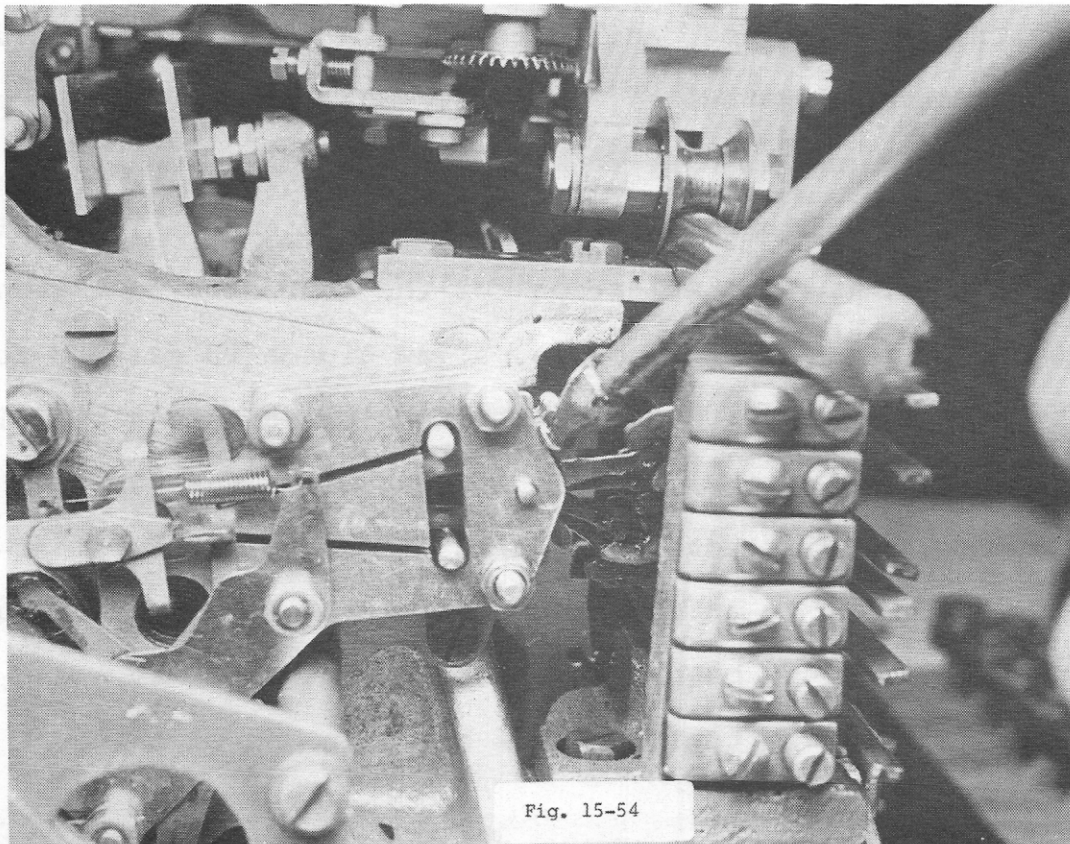

Fig. 15-54
3. Apply a little oil, very little only, to the "T" lever area; this will provide optimum lubrication to the selector mechanism area. See Fig. 15-54.